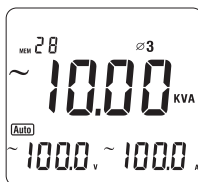

Figure 16
- Press **SELECT** again to choose the third phase ∅3, see figure 16.